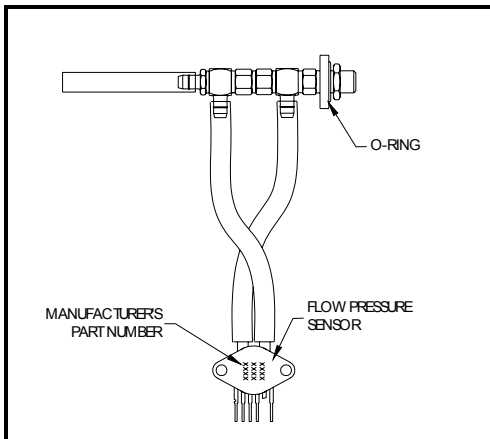

Figure 10. Flow-Pressure Sensor Assembly
12. Plug the flow pressure sensor into its signal cable. Carefully locate it back into the case and secure with the two Phillips screws. There should not be any crimps or restrictions in this water line. **Make sure that the side of the flow pressure sensor with the manufacturer's part number is oriented correctly according to Figure 10.**